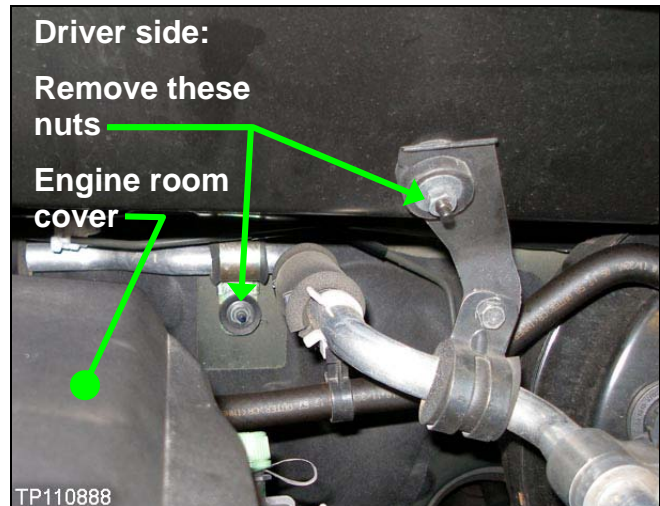

Figure 16
1. Remove the nuts on the two (2) brackets located on the driver side of the engine.
**NOTE:** The engine cover is shown installed in Figure 16 for viewing purposes only.